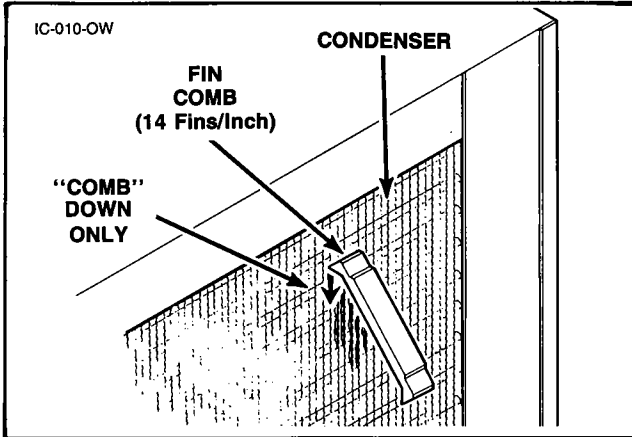

FIGURE 10 STRAIGHTEN BENT CONDENSER FINS
3. Straighten any bent condenser fins with a fin comb, Figure 10.